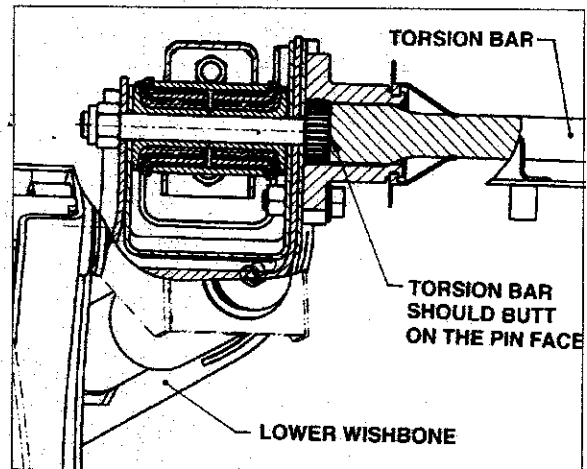

Fig. 21 - Installation of torsion bar
- 'R' and 'L' are marked at one end of RH and LH torsion bars respectively. Install unmarked end of torsion bar RH to the bracket on lower wishbone of RH side. Similarly install torsion bar LH. (Fig. 21)